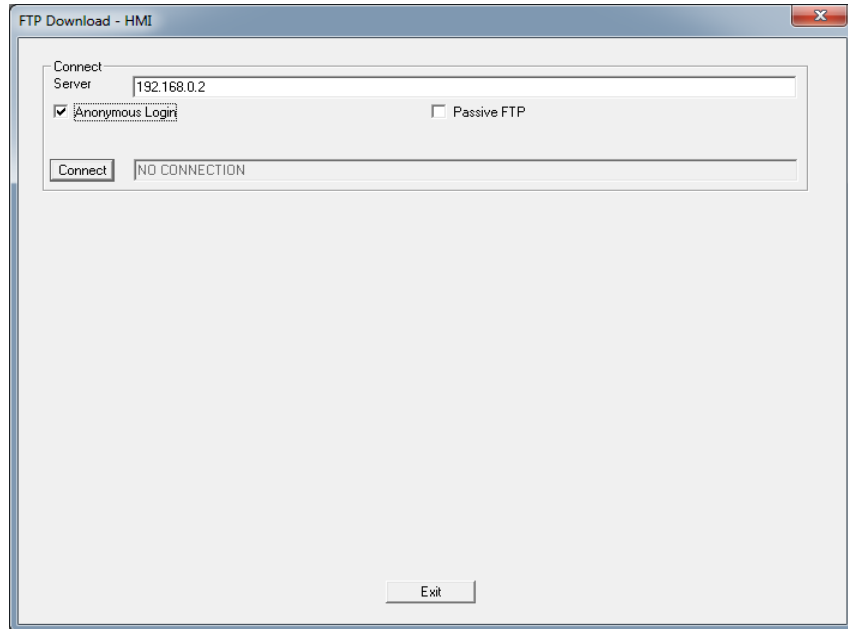

Figure 7-7 WebVisit FTP download to the controller
- In the “Connect” area, set the IP address of the controller under “Server” (“192.168.0.2” in the example, see Figure 7-7).